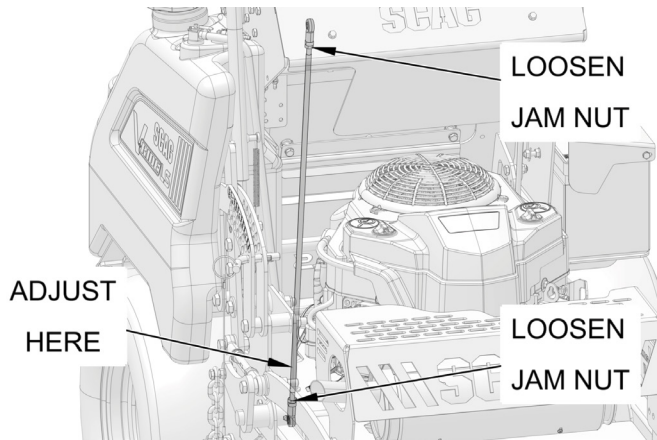

Figure 6-2. Tracking Adjustment
4. Adjust the left drive tire by loosening the jam nuts on the steering control rod and turning the rod until the drive tire turns in the forward direction. Turn the rod back until the drive tire stops moving, then turn the rod an additional half (1/2) turn. See Figure 6-2.
3. Rotate the control rod to lengthen the rod. This will cause the control rod to stroke the left pump less and slow down the left wheel. See Figure 6-2.
3. Rotate the control rod to lengthen the rod. This will cause the control rod to stroke the right pump less and slow down the right wheel. See Figure 6-2.